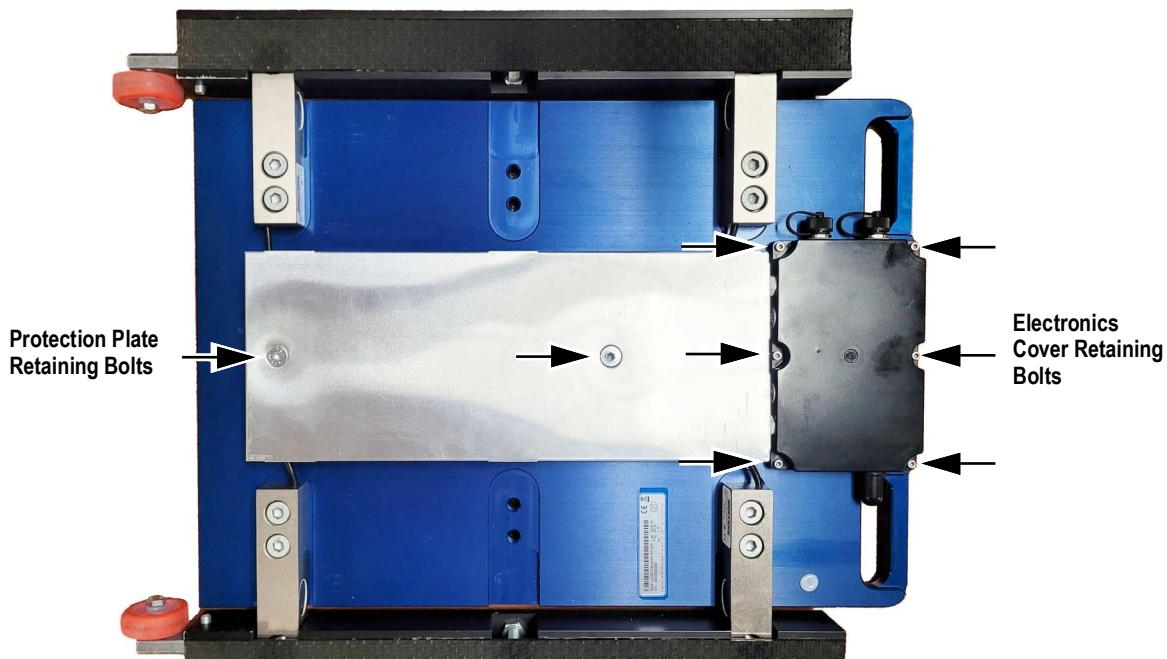

Figure 7-5. Protection Plate and Electronics Cover Retaining Bolts
18. Reinstall wheel weigh pad's electronics cover and protection plate with previously removed hardware (Figure 7-5 on page 63).